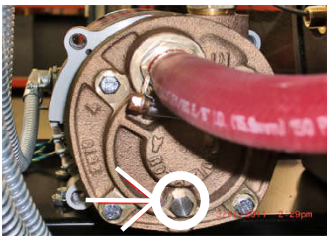
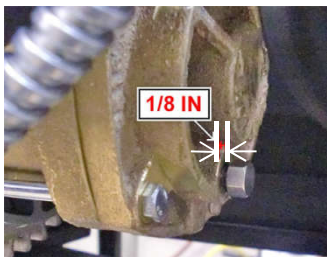

Figure 3-1. Priming Air Vent Screw
Figure 3-2. Air Vent Screw Opening
- 2) With the water tank filled as described in section 3-1, locate the air vent plug on the head of the pump, as shown circled in Figure 3-1. The air vent screw opening is shown in Figure 3-2.